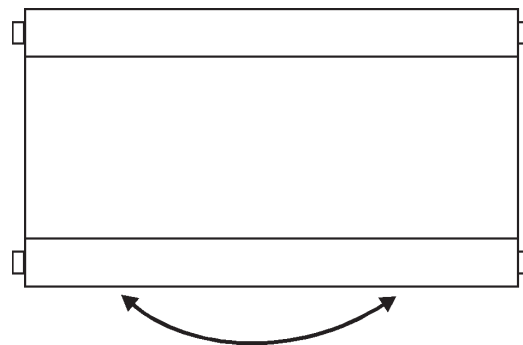

FIGURE 8
3. Using the web guide controller's push buttons, rotate the web guide in one direction until the desired end of travel is reached (See Figure 8).